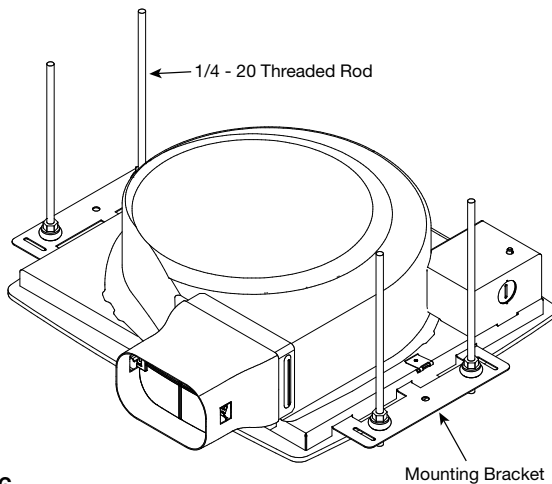

Figure 6
- Use Venco's optional vibration isolation kit. Using the fold down mounting brackets and 1/4-20 threaded rod (by others) to hang unit as shown in Figure 6.